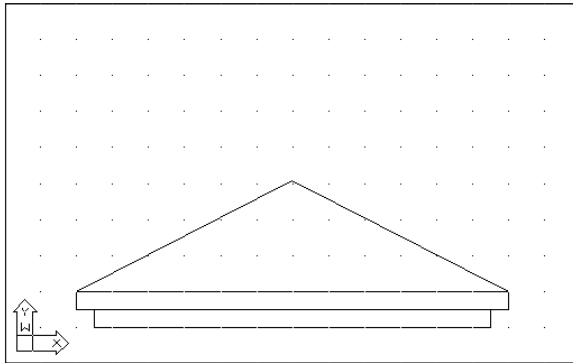

Figure 5-4: The final architectural drawing
9. Save your drawing. It should look like Figure 5-4. Notice how the grid and snap settings facilitate the drawing process.